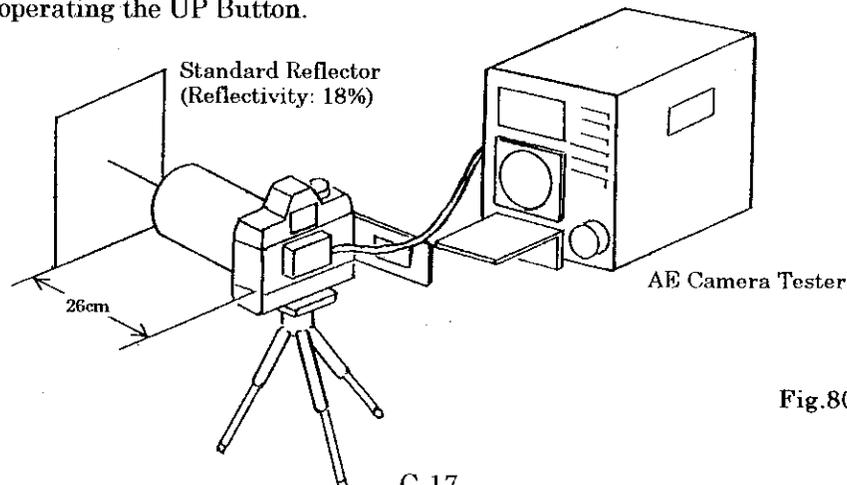

Fig.80
**(6) Adjustment of Flash Firing Time****< Tools for Adjustment >**
- As shown in Fig. 80, set the camera (film plane) at 26 cm from the Reflector. Focus the Lens of the camera by turning the focus ring of the Lens Barrel and lock the focus ring with the lock screw and then start measuring.